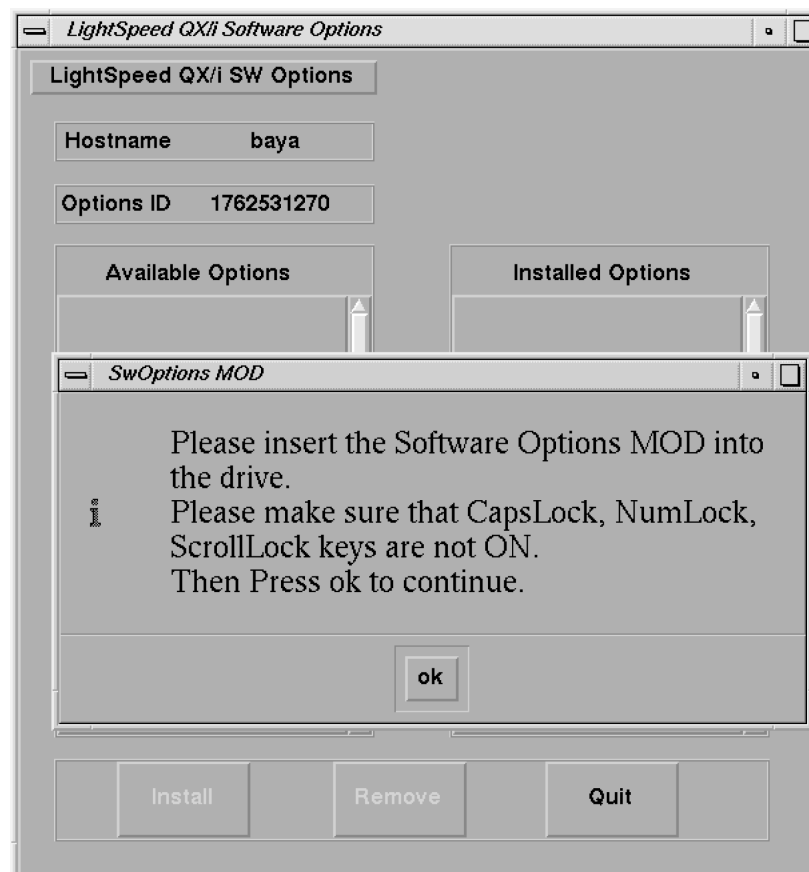

Figure 6-4 Options Window
- 4.) Select INSTALLOPTIONS to display the options window shown in Figure 6-4.